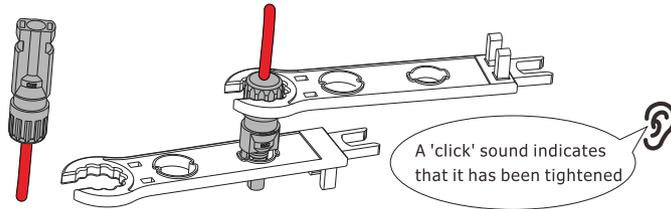

Figure 4.1-3 Connector with cap nut screwed on
Step 3. Insert the contact pin to the top part of the connector and completely tighten the cap nut to the top part of the connector, as shown in Figure 4.1-3.